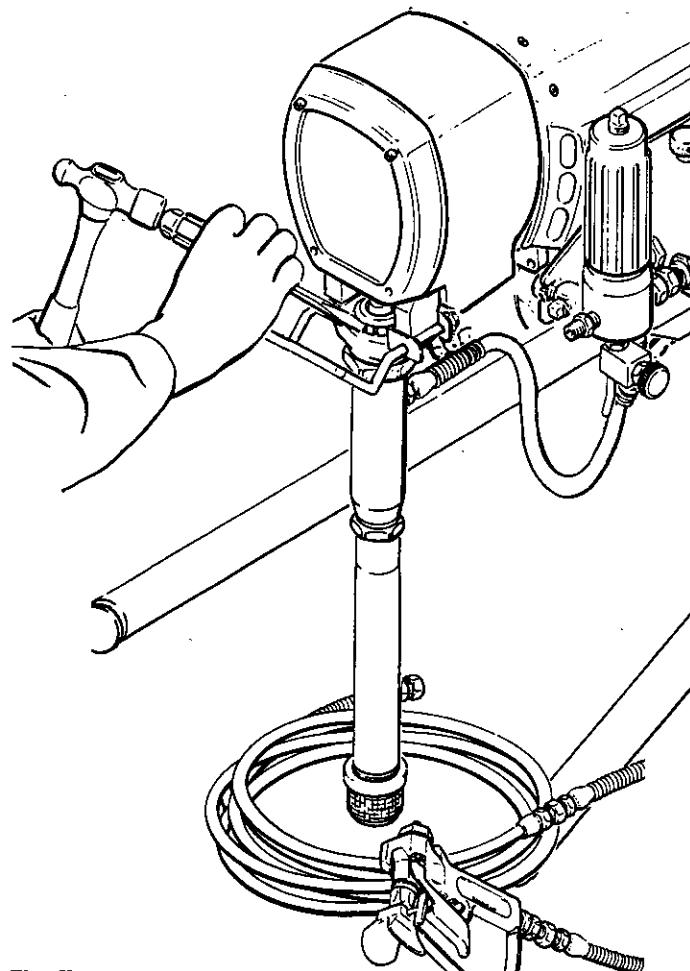

Fig 7
- Check the packing nut/wet-cup daily.** First follow the **Pressure Relief Procedure Warning** on page 10. Be sure the wet-cup is 1/3 full of TSL at all times to help prevent paint buildup on the piston rod and premature wear of packings. The packing nut should be tight enough to stop leakage, but no tighter. Overtightening may cause binding and excessive packing wear. Use a screwdriver and light hammer to adjust the nut. See Fig 7.